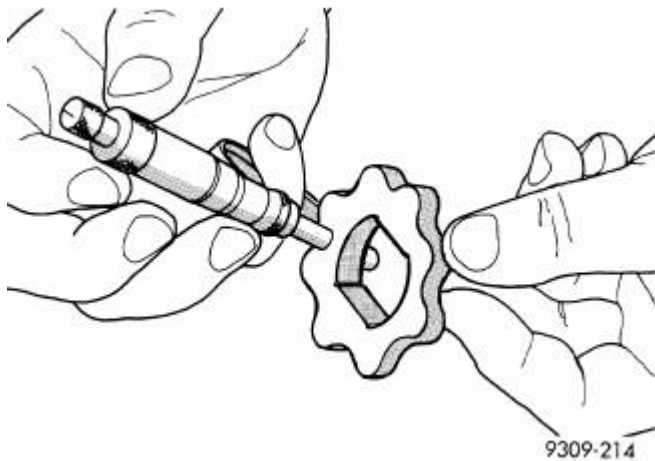

Fig. 176: Measuring Inner Rotor Thickness
4. If inner rotor thickness measures 7.64 mm (0.301 in.) or less, replace inner rotor. Refer to **Fig. 176**.